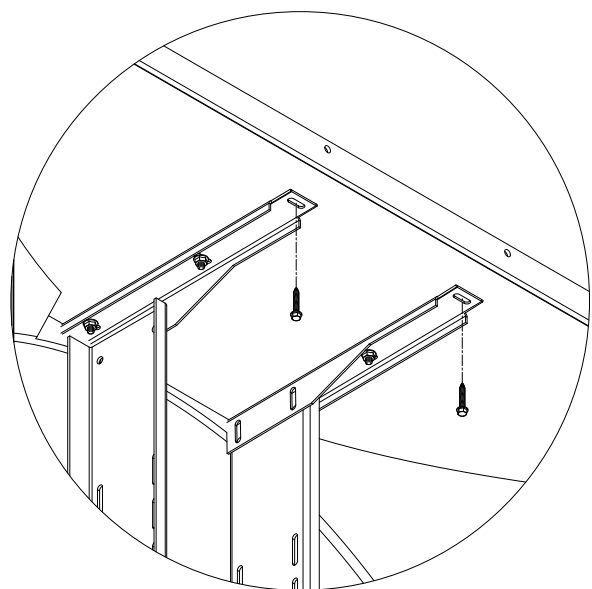

FIGURE 2
3. The housing is designed for installation to the inside of the framed opening. Caulk under the housing flange as needed. Starting with the TOP two support brackets (two on top and two on bottom) secure to the framing using the 1/4" x 1 1/2" screws provided, through the slots into the framing as shown in Figure 2.